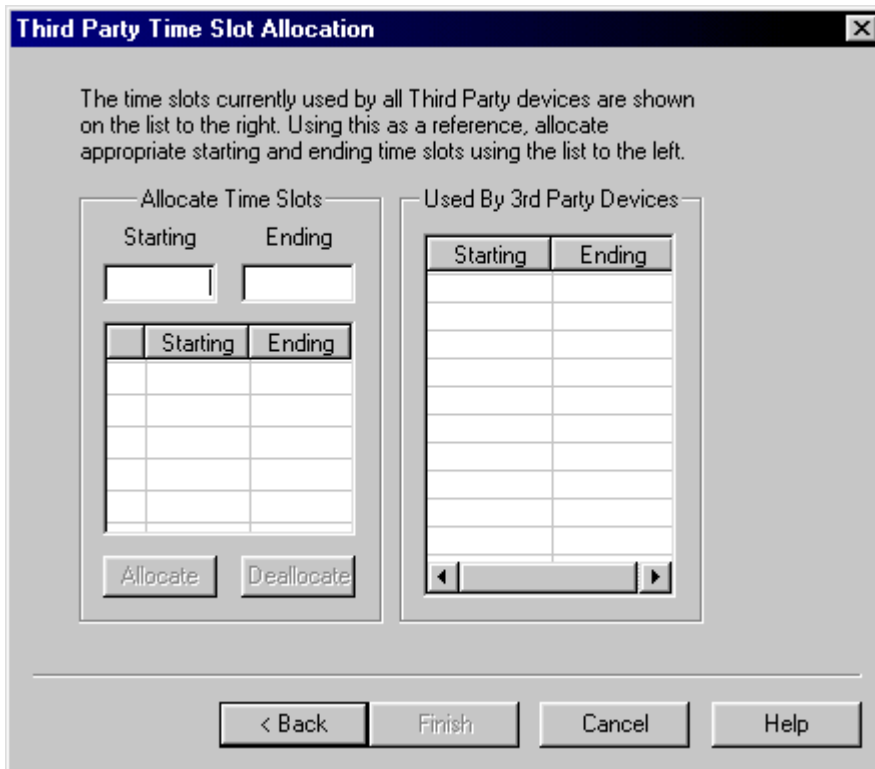

Figure 24. Third Party Time Slot Allocation Screen
- Click the **Next** button to display the **Third Party Tim Slot Allocation** screen. Figure 24 shows the initial **Third Party Time Slot Allocation** screen (i.e. when you haven't added any third party devices yet):